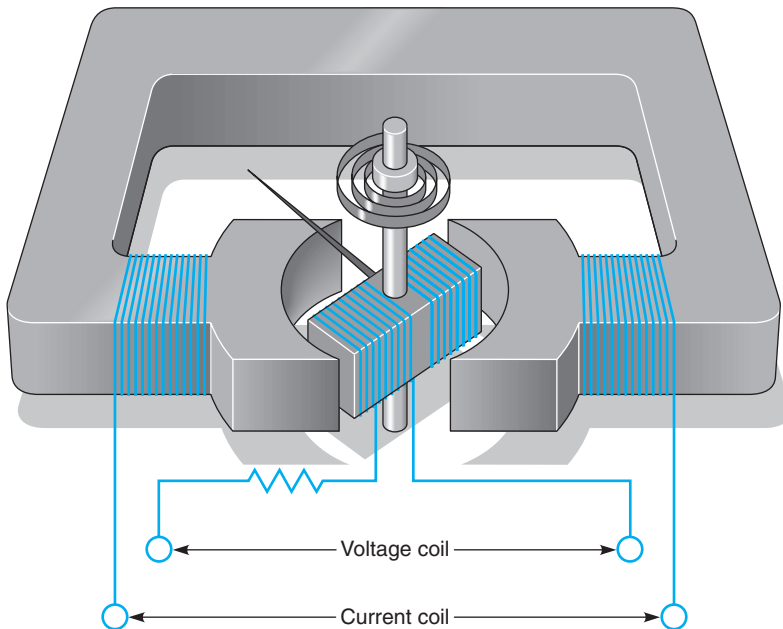

Figure 6-1 The wattmeter contains two coils—one for voltage and the other for current.
The *watt* (W) is used as the unit of electrical power. The instrument used to measure power is the *wattmeter* (Figure 6-1). When 1 ampere exists in a circuit due to a